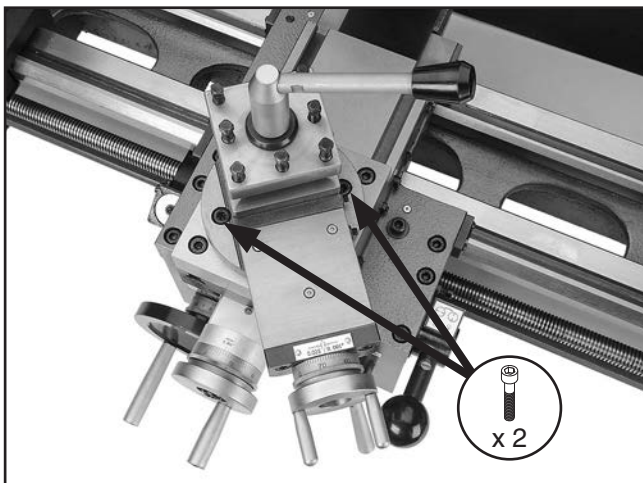

Figure 44. Compound rest angle adjustments.
1. Loosen cap screws shown in **Figure 44**.
Use this handwheel to move the cutting tool linearly along the set angle of the compound rest. Set the compound rest angle by hand-rotating it and securing it with the two cap screws (see **Figure 44** on **Page 38**). The compound rest has an indirect-read graduated dial, which shows the actual distance the tool moves.